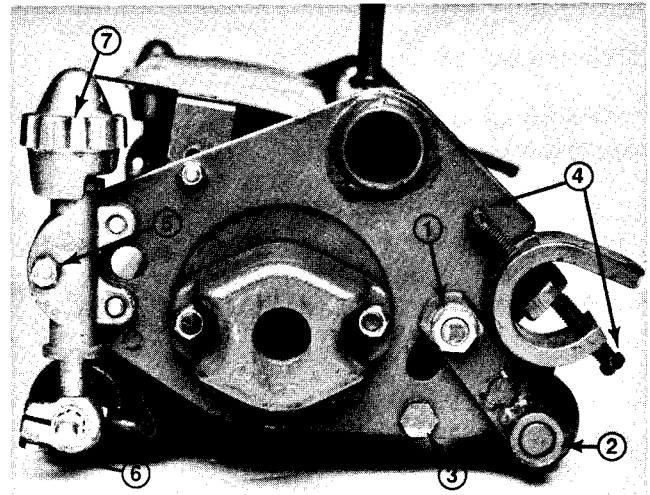

Figure 23
2. Remove capscrew and nut anchoring the rear roller height-of-cut bracket to the side plate on both ends of the cutting unit (Fig. 23).
3. Loosen allen set screws securing the roller shaft (Fig. 23).
5. Remove the bedbar mounting bolts from each end of the cutting unit (Fig. 23). Then loosen the bedknife adjusting screws at each end of the cutting unit (Fig. 23). The bedknife assembly can then be removed by rotating it away from the reel.